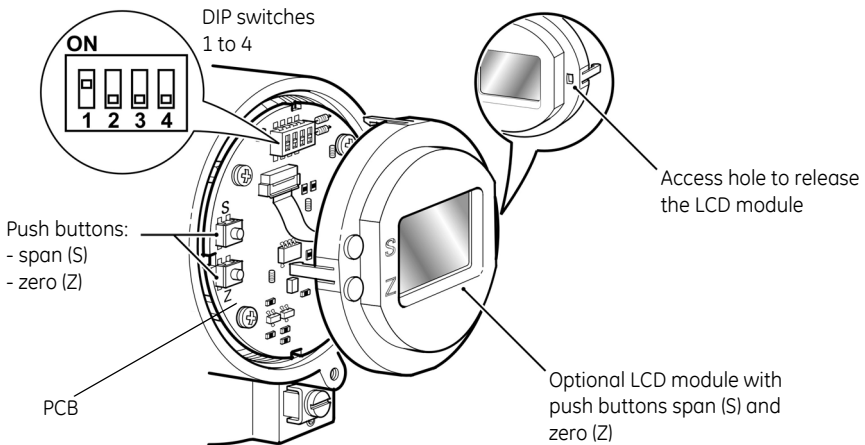

Figure 4-2 Location of DIP switches and push buttons
4.2 Manual Configuration Facilities (Figure 4-2)